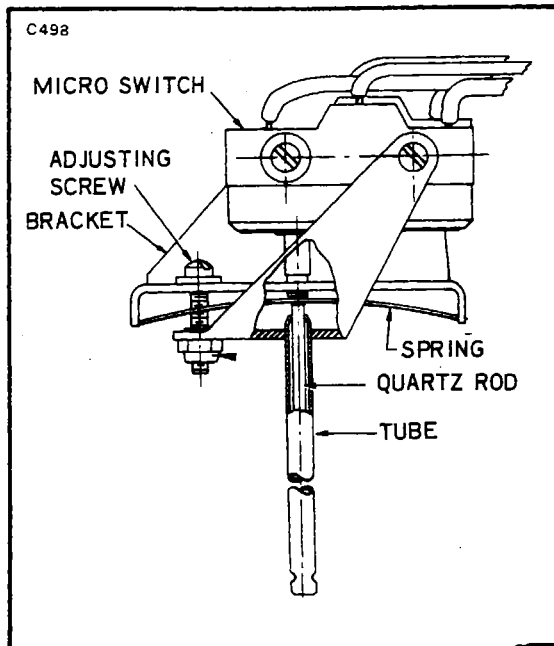

Figure 13-14. Flame Detector Switch
b. Back off the adjusting screw until the switch clicks. (Refer to Figure 13-14.)